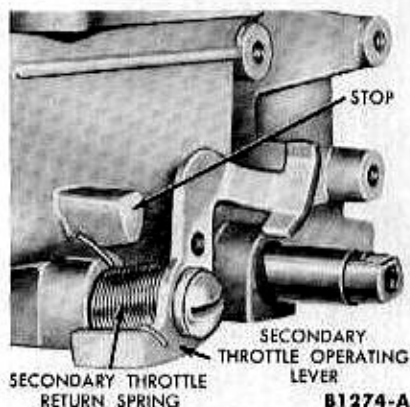

FIG. 38—Secondary Throttle Return Spring Installed
5. Position the secondary throttle return spring on the shaft with the straight tang end against the carburetor and underneath the stop (Fig. 38).
operating lever on the shaft with the curved shoe portion up and the identification "C" to the outside. Wind the secondary throttle return spring clockwise and catch the bent tang end over the lug of the secondary throttle operating lever (Fig. 38).